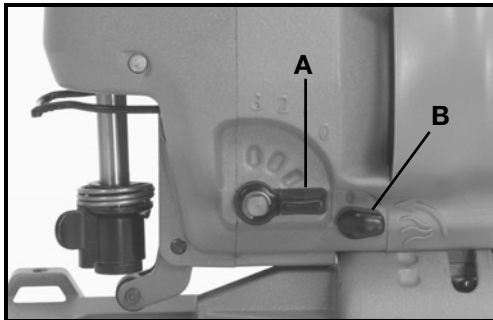

Fig. 6
2. Gently squeeze the switch trigger until the blade shaft moves slowly and stop the motor when the blade shaft is at or near the bottom of its stroke, Fig. 6.
The blade orbit may be varied by turning knob (A), Fig. 6, to any of four positions indicated by the numbers “0” through “3”, with “0” producing no orbit and “3” producing maximum orbit. The orbit may be adjusted with or without the motor running. Move knob (A), Fig. 6, to the detent in the housing corresponding to the number on the housing. The knob is shown in position “0”. The straight up and down position would be setting “3”. Metal cutting should be performed in orbit setting “0”.
This saw is equipped with a chip blower to keep the cutting area free of chips. Use knob (B), Fig. 6, to turn the chip blower on and off. The knob is shown in the off position. To turn the chip blower on, turn the knob counterclockwise until it stops.